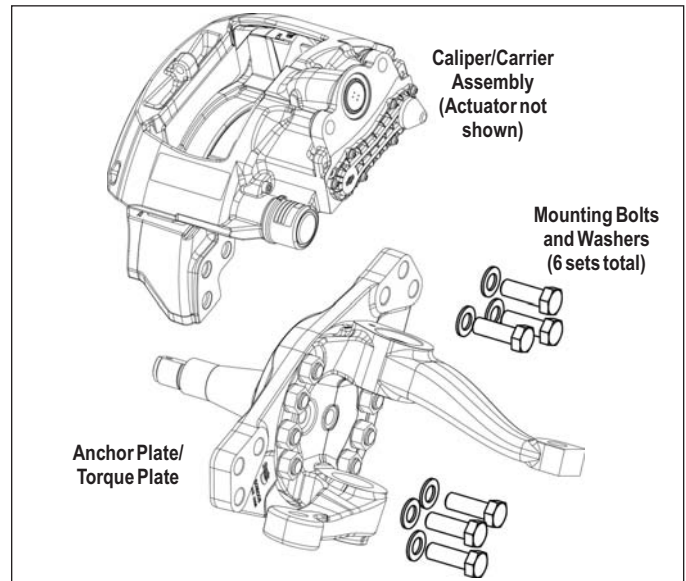

FIGURE 42 - AXIAL MOUNT CALIPER/CARRIER
5.3.5 Disconnect the air hose(s) to the brake chamber. See Figure 42. Supporting the air disc brake by necessary means, remove the six bolts attaching the brake to the anchor plate and remove the caliper/carrier assembly from the vehicle.